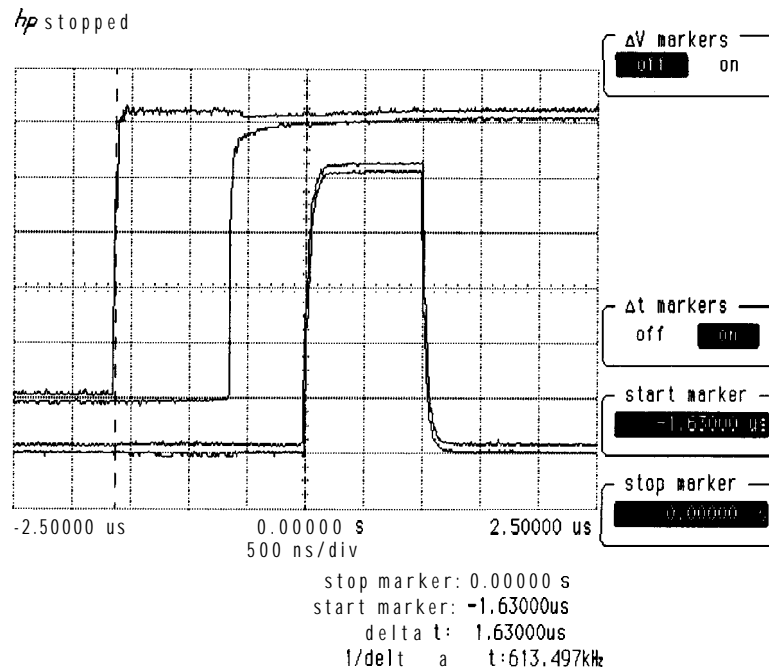

Figure 8-4. Oscilloscope Display of Minimum and Maximum Gate Delay Values
7. On the oscilloscope, press start marker . Use the knob to position the start marker on the upper trace on the right side of the oscilloscope display. See Figure 8-4.